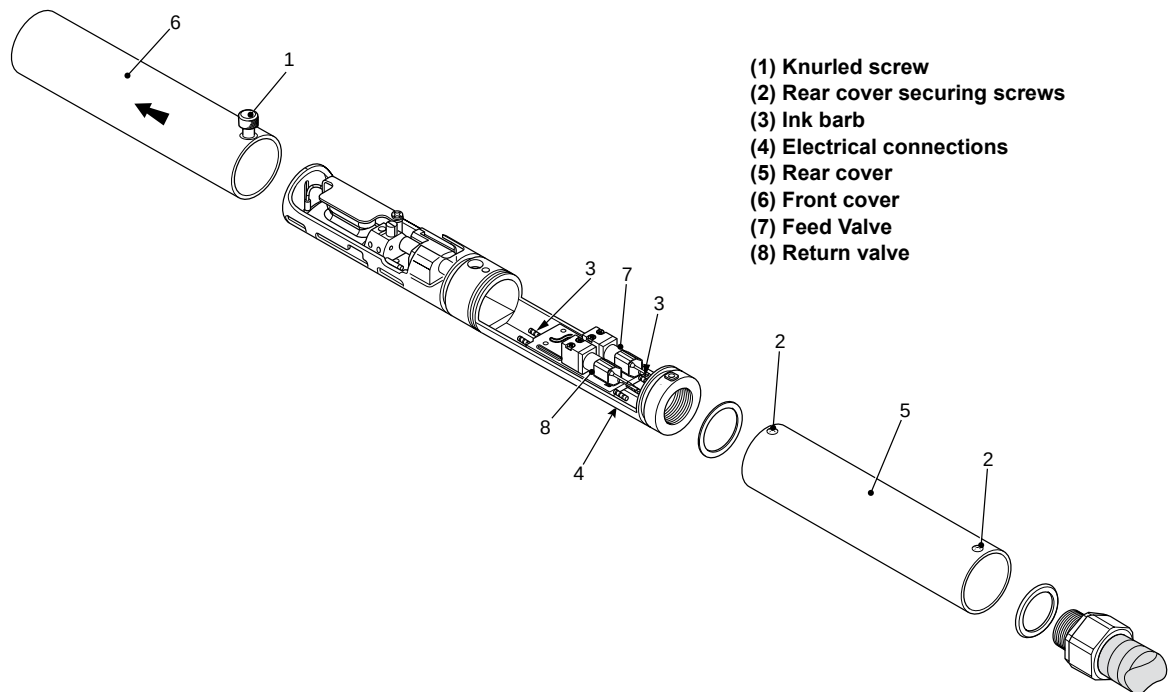

Figure 8-21. Head Manifold
- 1 Slacken the knurled screw (Item 1 in Figure 8-21) and slide the front cover (6) off the printhead.
- 2 Remove and retain the two rear cover securing screws (2).
- 3 Slide the rear cover (5) back over the umbilical until it is clear of the printhead.
- 4 Remove the heat shrink from the five electrical connections (4) at the rear of the head heater. Make a note of how the wires are connected and then unsolder the connections.
- 5 Disconnect the electrical connections to the feed valve (7) and return valve (8).
- 6 Remove the tubes from the barbs (3) from the front and rear of the head manifold.